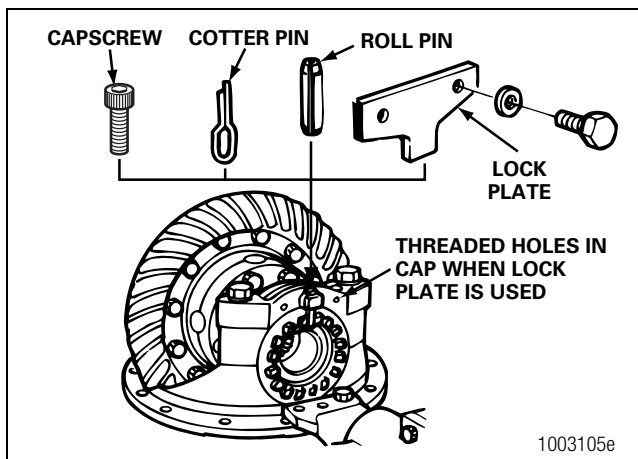

Figure 5.76
- A. Install capscrews between the lugs of the adjusting ring and through the boss of the bearing cap. New capscrews include a locking patch, which can only be used once. If you are installing used capscrews, apply Loctite® threadlocker to the capscrew threads before you install the capscrews. Figure 5.76.
- B. Install cotter pins between the lugs of the adjusting ring and through the boss of the bearing cap. Bend the two ends of the cotter pin around the boss. Figure 5.76.
- C. Use a drift and hammer to install the roll pin through the boss of the bearing cap until the roll pin is between the lugs of the adjusting ring. Figure 5.76.
- D. Install the lock plate onto the bearing cap so that the tab is between the lugs of the adjusting ring. Install the two capscrews and washers that hold the lock plate to the bearing cap. Tighten the capscrews to the correct torque value. Refer to Section 8. Figure 5.76.